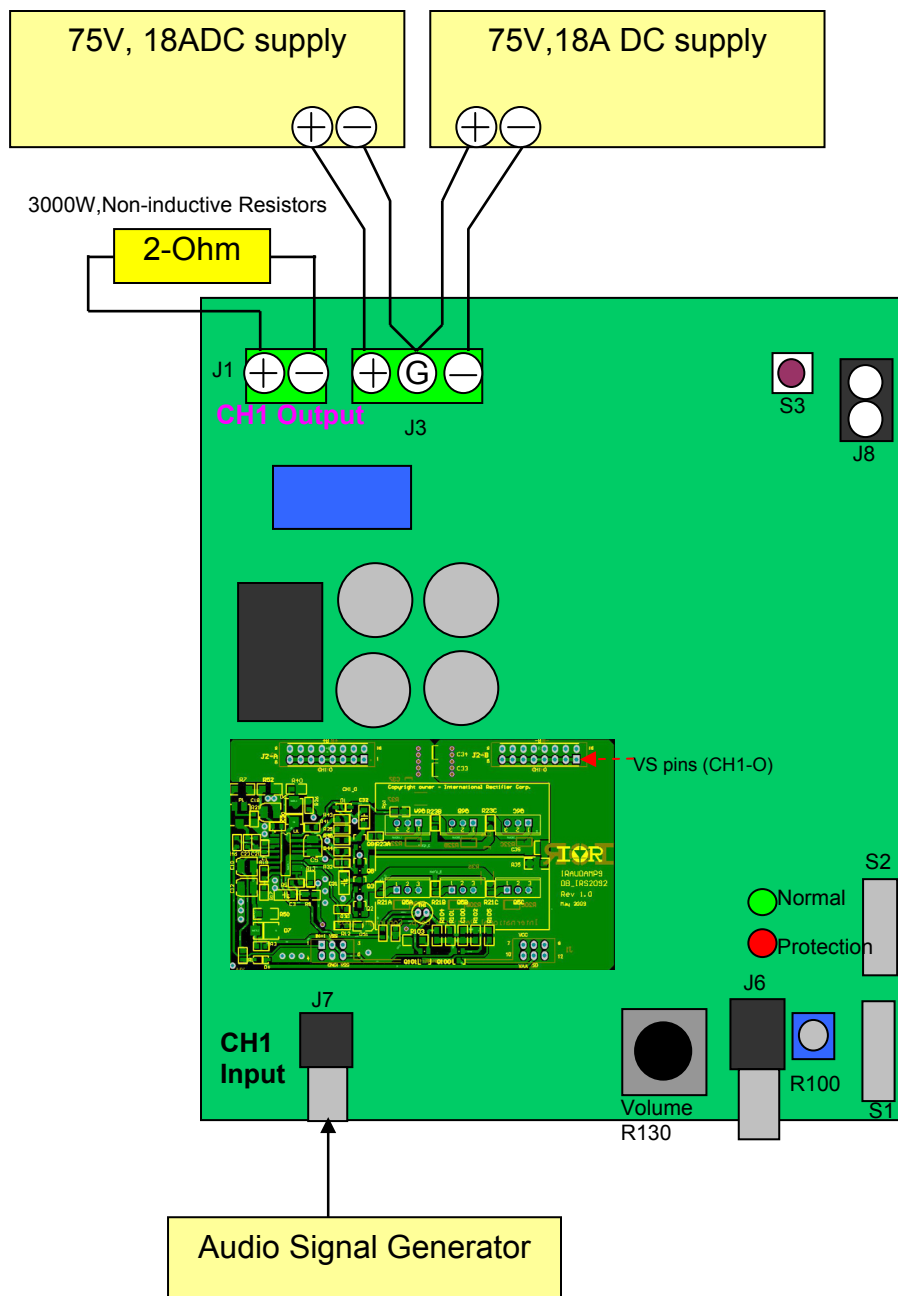

Figure 1 Typical Test Setup
1. Connect 2Ω - 3000 W dummy loads to the output connectors (J1 as shown on Figure 1).
2. Connect the Audio Precision Analyzer (AP) signal Generator output to J7.
7. Connect the dual power supply to J3 as shown in Figure 1.